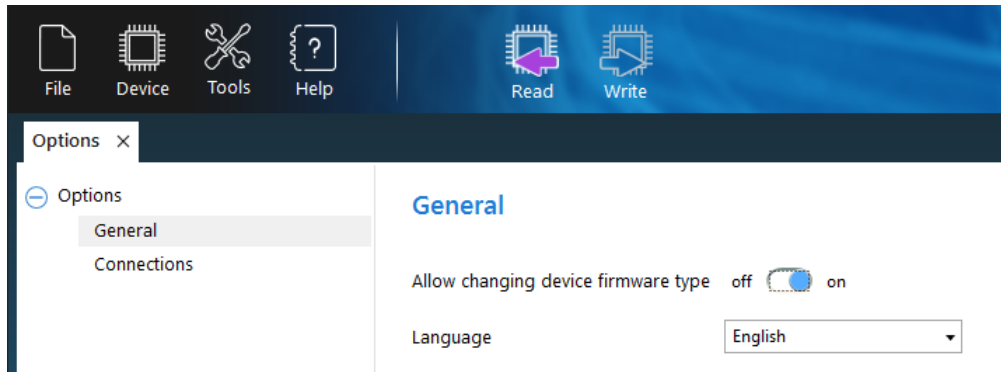

Figure 6: The device mode change is enabled
- On the **Tools** menu, click **Options**. In the right pane, make sure that the **Allow changing device firmware type** option is switched on (Figure 6).